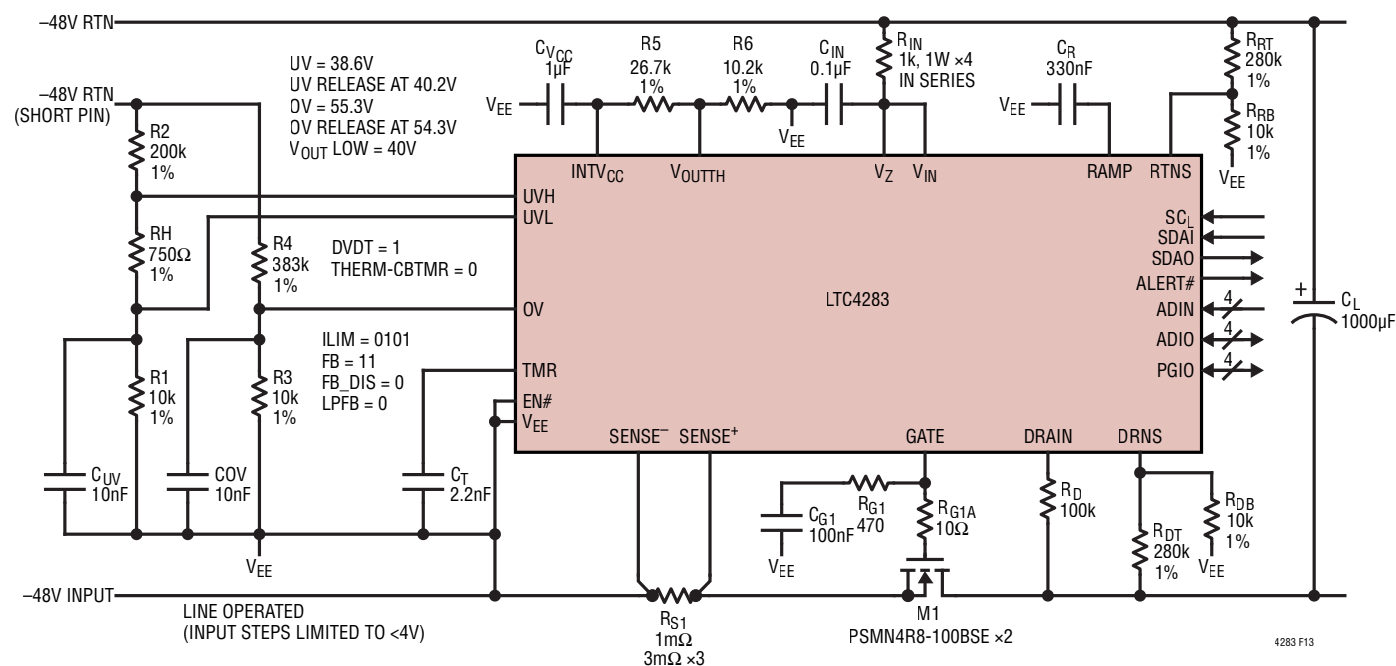

Figure 13. -48V/800W Hot Swap Controller with dV/dt Inrush Control
The second example is a line operated -48V system with supply tolerance of 10% (-43.2V to -52.8V) and maximum load power of 800W as shown in Figure 13. The load capacitance is specified as $C_L = 1000\mu\text{F}$.
voltage can be obtained with a resistive divider between INTV_{CC} (5V) and V_{EE}. The divider ratio is 5V/1.379V = 3.63. A divider of 26.7k and 10.2k as shown Figure 13 gives a close enough ratio of 3.62.
Although it is possible to use a single, four-resistor (or three-resistor if UVH and UVL connected together) divider as shown in Example 1, Step 7, two independent dividers with 2 (OV) or 2 to 3 (UV) resistors in each divider make it easier to make non-interactive changes at a later time. The two dividers as shown in Figure 13 gives UV shutdown at 38.6V, UV release at 40.2V, OV shutdown at 55.3V and OV release at 54.3V, which covers the full input voltage range of this example. 10nF capacitors filter out noises on UVL and OV.